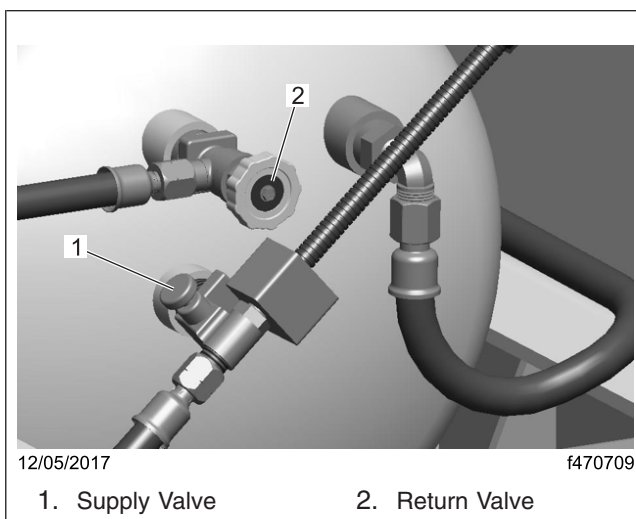
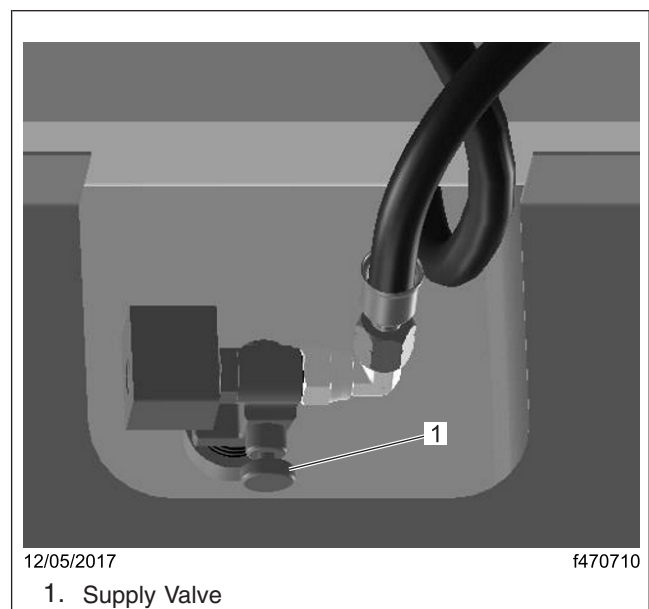

Fig. 1, School Bus Fuel Line Valves
Fig. 2, S2G Delivery Truck, Supply Valve
- 4.1 Locate the supply valve. See Fig. 1, Item 1, for Saf-T-Liner C2 School Bus and Fig. 2 for S2G delivery truck.